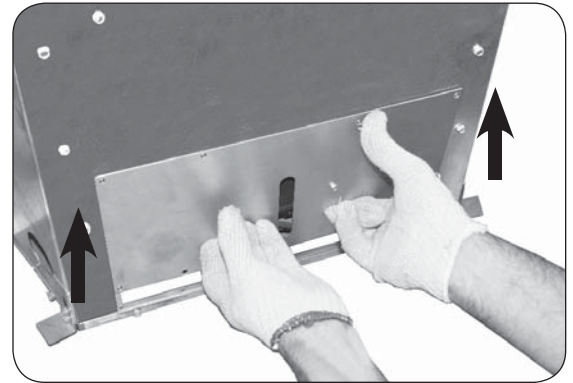

Fig. 57-2 Lift panel for removal
4. Slightly lift the panel up, then pull the panel and fan assembly out of the unit (see Fig. 57-2 and 57-3).